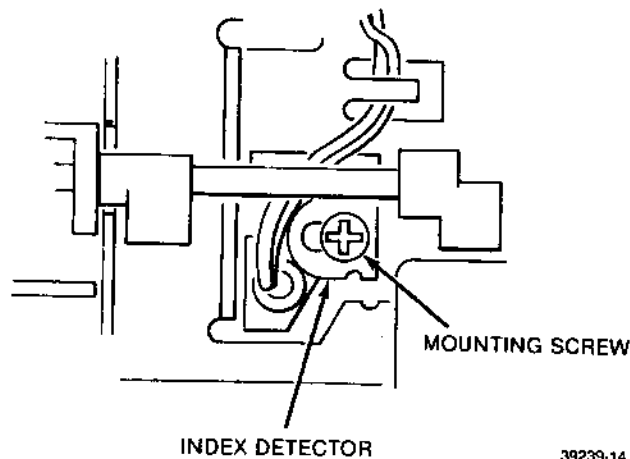

FIGURE 5-11. INDEX DETECTOR
- g. Loosen mounting screw in index detector block until assembly is just able to be moved. See figure 5-11.